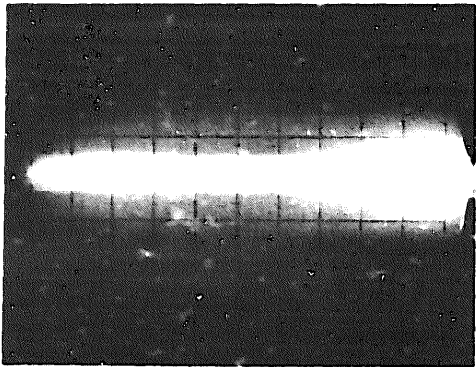
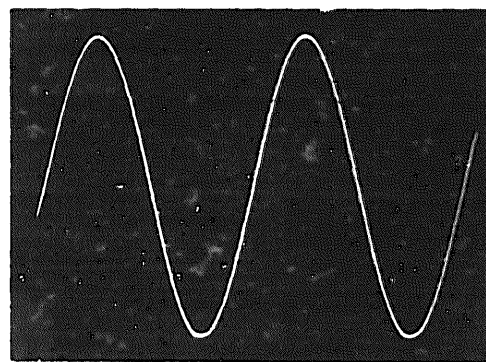

Figure 1-8. Single-shot trace bloom caused by INTENSITY and or PERSISTENCE set too high
Figure 1-9. Single-shot display with INTENSITY and PERSISTENCE set the same as Figure 1-7
- g. **BLOOM** - A visible, non-symmetrical expansion of a display written on the CRT screen, Figure 1-8.
- a. **PERSISTENCE** and **INTENSITY**. These controls contribute to the duration of afterglow of a display. Always set **PERSISTENCE** and **INTENSITY** as shown in Figure 1-8. The **PERSISTENCE** control sets the rate at which a display is erased; **INTENSITY** sets the brightness of the trace as it is written. With a given **PERSISTENCE** setting, the actual duration of trace afterglow may be increased by increasing the **INTENSITY**. Since the **PERSISTENCE** control sets the rate of erasing a written display, it follows that a brighter trace will require more time to be erased. Conversely, a display of low intensity will disappear more rapidly. The same principle applies to a stored display of high and low intensity.
Trace blooming, Fig. 1-8, is the best indicator of excessive **INTENSITY** which can damage the **CRT**. However, blooming does not occur when **PERSISTENCE** is set to **NORMAL**. Therefore, **DO NOT INCREASE INTENSITY WHEN PERSISTENCE IS SET TO NORMAL**. Always be sure to repeat above procedure each time sweep speed or input signals change.
approach. The amplitude of the phenomena and the sweep-time required to display it will affect the persistence. For example, with maximum PERSISTENCE and some settings of INTENSITY, a single-shot straight-line trace may bloom, Fig. 1-8, and a single-shot signal with amplitude variations of several centimeters may not cause blooms, Fig. 1-9. To determine the best INTENSITY setting, connect a signal which approximates the sweep time and amplitude of the single-shot signal to be written. Set PERSISTENCE fully clockwise and trigger a single sweep of the test signal. Set the INTENSITY as far clockwise as possible without causing blooming. Repeat the single sweep signal, erasing the display and setting the INTENSITY after each trace until the desired display is obtained. This setup should give maximum persistence to the single-shot display. After the single-shot signal has been written, turn the Presentation Selector to STORE to retain the display.